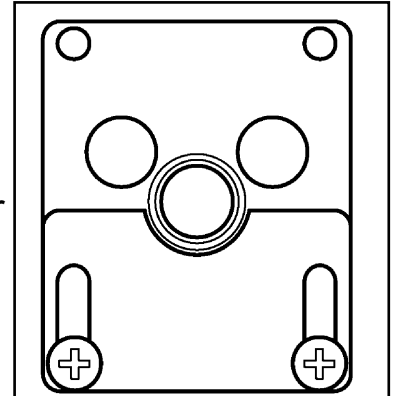

Figure 10. Aeration shutter setting
– The aeration shutter is factory set. It is important to ensure that the aeration setting is correct. Check the aeration shutter setting (See figure 10).
– To adjust the aeration setting, loosen the two aeration shutter screws, slide the aeration shutter to the position shown in figure 10 and tighten the fixing screws.